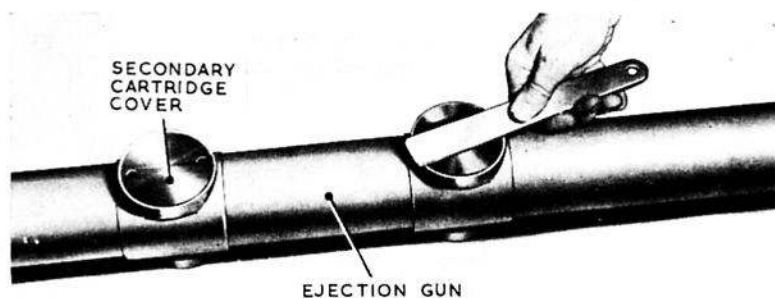

Fig. 6. Removing the secondary cartridges
6. (1) Break the sealed locking wire and unscrew each secondary cartridge cover, using the special spanner provided (fig. 6).